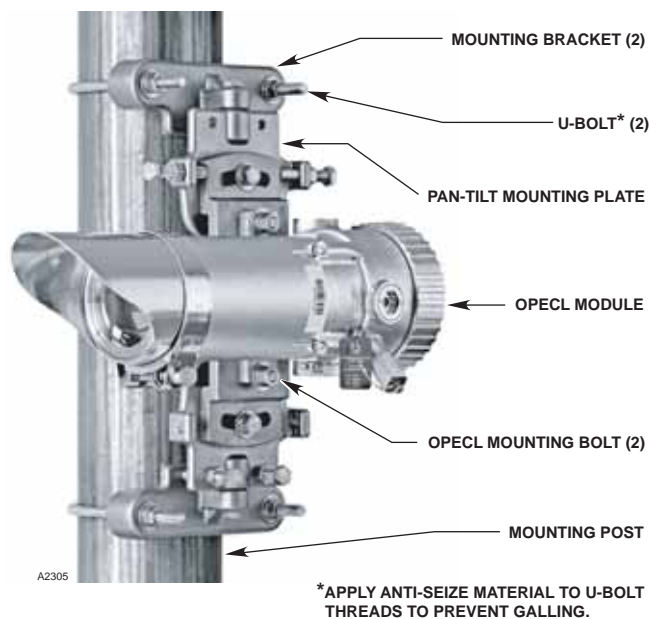

Figure 4—OPECL Gas Detector Mounted to Vertical Post
- A vertical post with a nominal outside diameter of 4.5" (11.43 cm). Acceptable outside diameter range is 4.0 to 5.0 inches. See Figure 4.